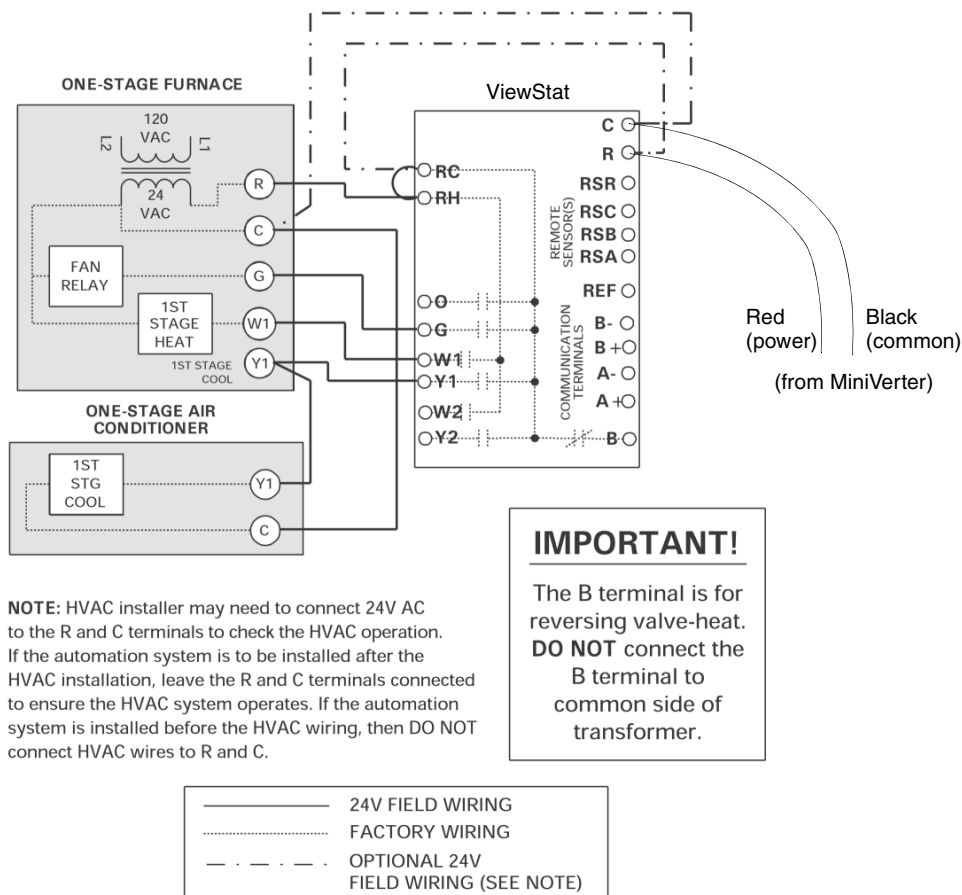

FIG. 18 Single-stage furnace and AC configuration
• Single Stage Furnace & AC	Refer to FIG. 18 on page 26